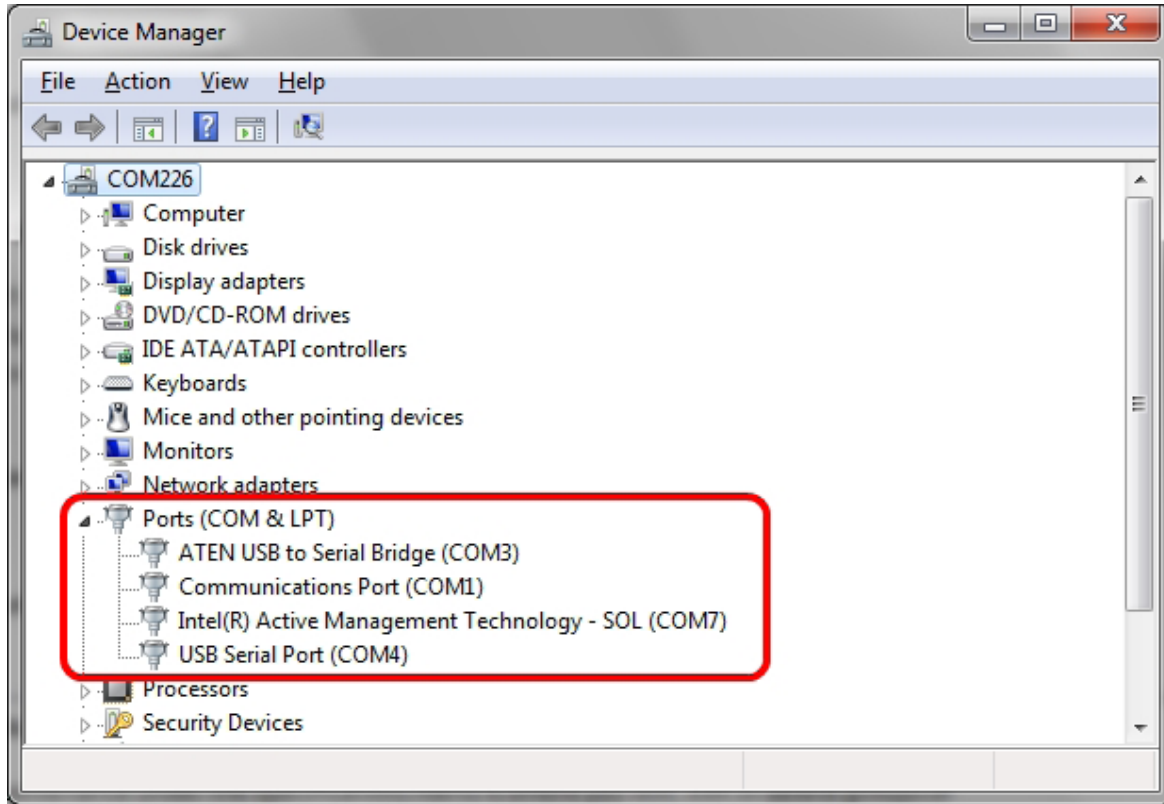

Figure 31
**Local Serial Port** – A local serial port may be an RS-232 port with a DB9-M connector on the PC or it may be a USB-to-Serial (RS-232 or RS-485) adapter. It can even be a COM port redirector locally installed and configured to use a remote serial server. In any of these cases, these are considered local serial ports and they will be presented to you in your Windows operating system under the Device Manager, see Figure 31. Note that even though BinInventory v5.3 directly supports remote serial servers, in the instance mentioned here, this remote serial device is considered a local serial port because it is available through a COM port redirector.